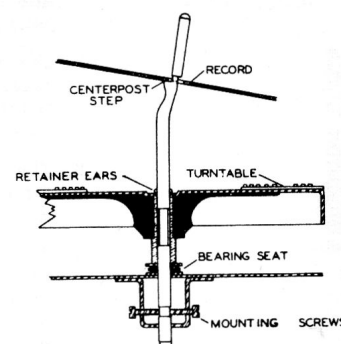

Figure 10
1. Loosen the two screws mounting the centerpost. (Figure 10.)
4. Tighten the two mounting screws. (Figure 10.)